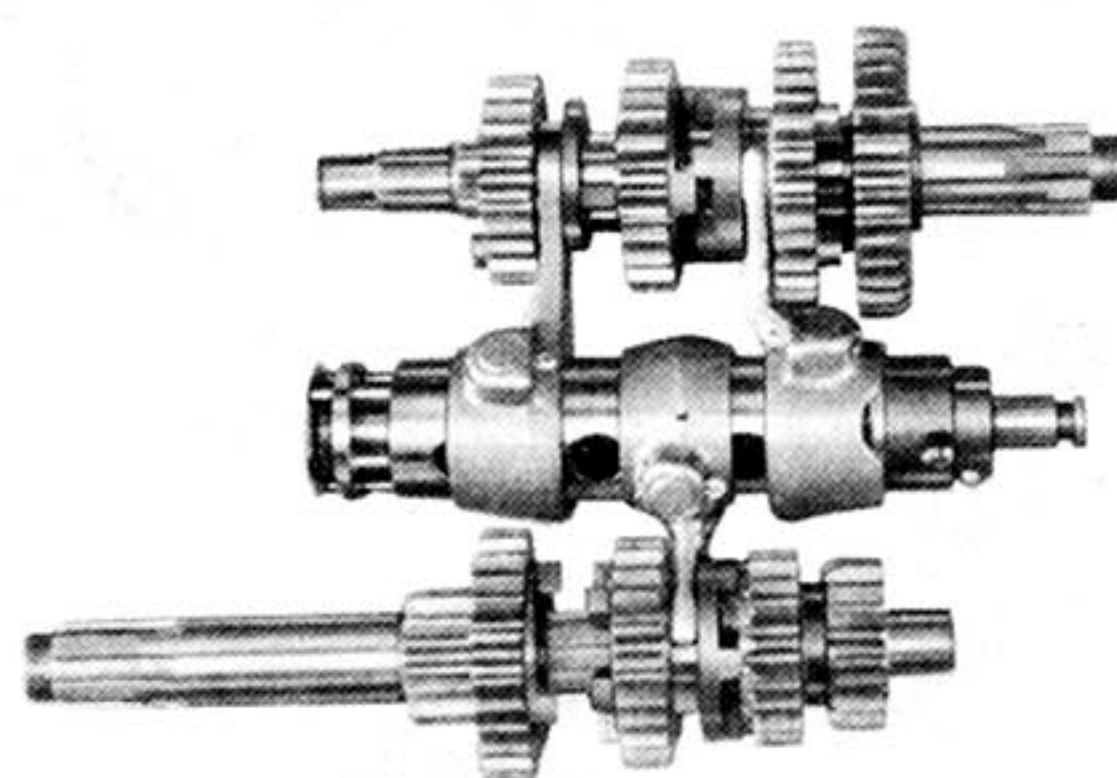

Fig. 4-16-9
- a. Reinstalling the Gear Ass'y and Shifter Reinstall the transmission and shifter as a unit in the left crankcase half after they are sub assembled. Remember that the gear ass'y and shifter drum can not be installed separately. (Fig. 4-16-9)